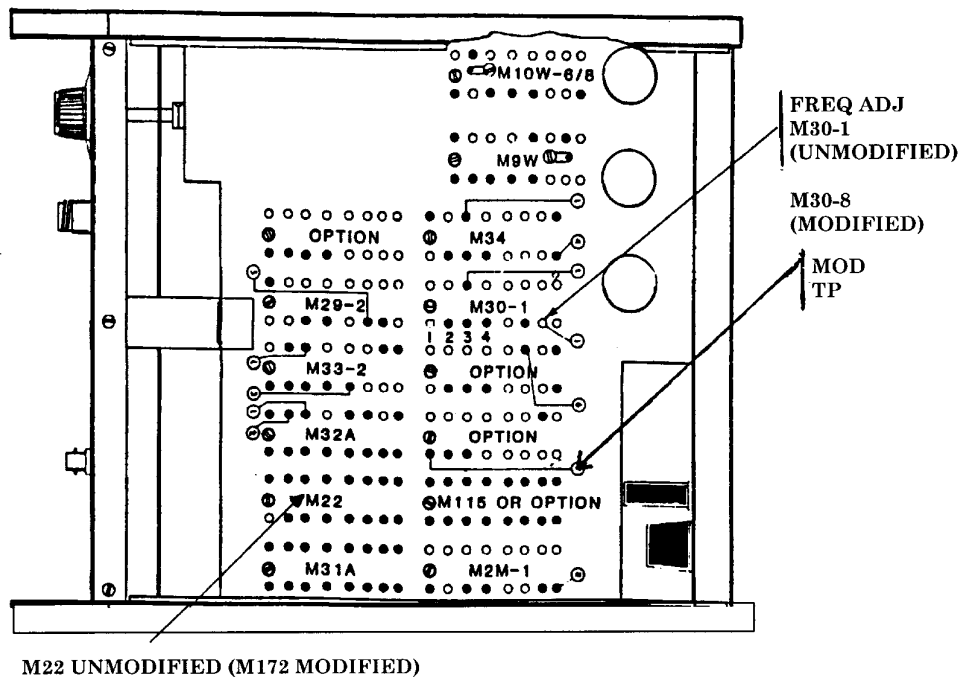

Figure 1. Test instrument - bottom view.
(1) Position TI controls as listed in (a) through (d) below:
(2) Set **FREQUENCY** switches to indicate **500.000 MHz.**
(3) Adjust **FREQ ADJ M30-1**(UNMODIFIED) (fig. 1) trimmer ccw for minimum frequency indication on frequency counter, then adjust trimmer cw until frequency counter indicates 500.000 MHz (R).
- (5) Connect digital multimeter to MOD TP (fig. 1) and ground.
(7) Set **MODULATION FM/AM** slide control to **0**. The digital multimeter should indicate $0\text{ V} \pm 20\text{ mV}$ dc.
(8) Disconnect the digital multimeter from MOD TP (fig. 1) and ground.